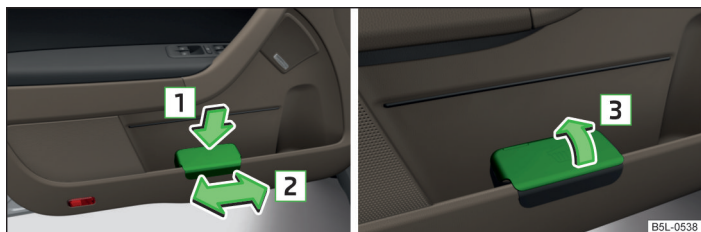

Fig. 65 Waste container: inserting and moving / opening
- Push the waste container to the back in the direction of the arrow  » Fig. 65.
- Remove the waste container in the opposite direction to the arrow  » Fig. 65.
- Open the waste container in the direction of the arrow  » Fig. 65.